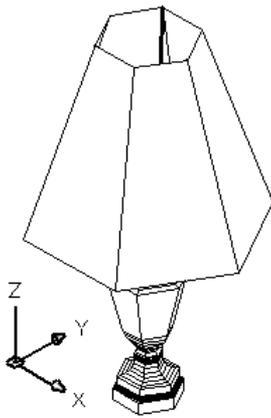

Figure 24-29: The lamp is now ready to place in a 3D drawing of a house.
- To get a better view, choose **View** ⇨ **3D Views** ⇨ **SE Isometric**. Use the **HIDE** command to hide the drawing. It should look like Figure 24-29. Of course, looking at the lamp from a different viewpoint does not change the orientation of the lamp relative to the UCS.